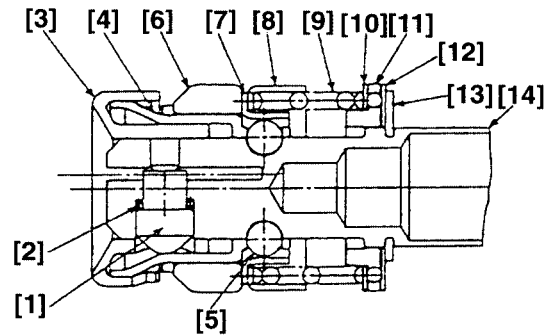

Fig. 9
#### (1) Reassembly of the blade mounting section (Figs. 9, 10 and 11)